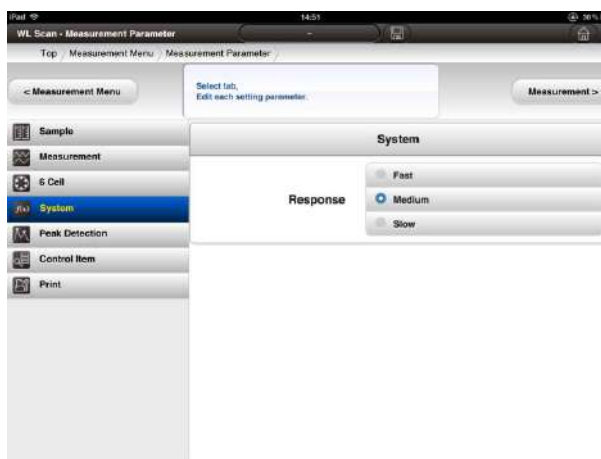

Fig. 4-74 System Conditions Window
- (1) Press  [System tab] to set system conditions.
- (2) The system conditions window (Fig. 4-74) will then be shown. Set the conditions for the calibration curve regression equation according to the guidance. See Table 4-48 for details.